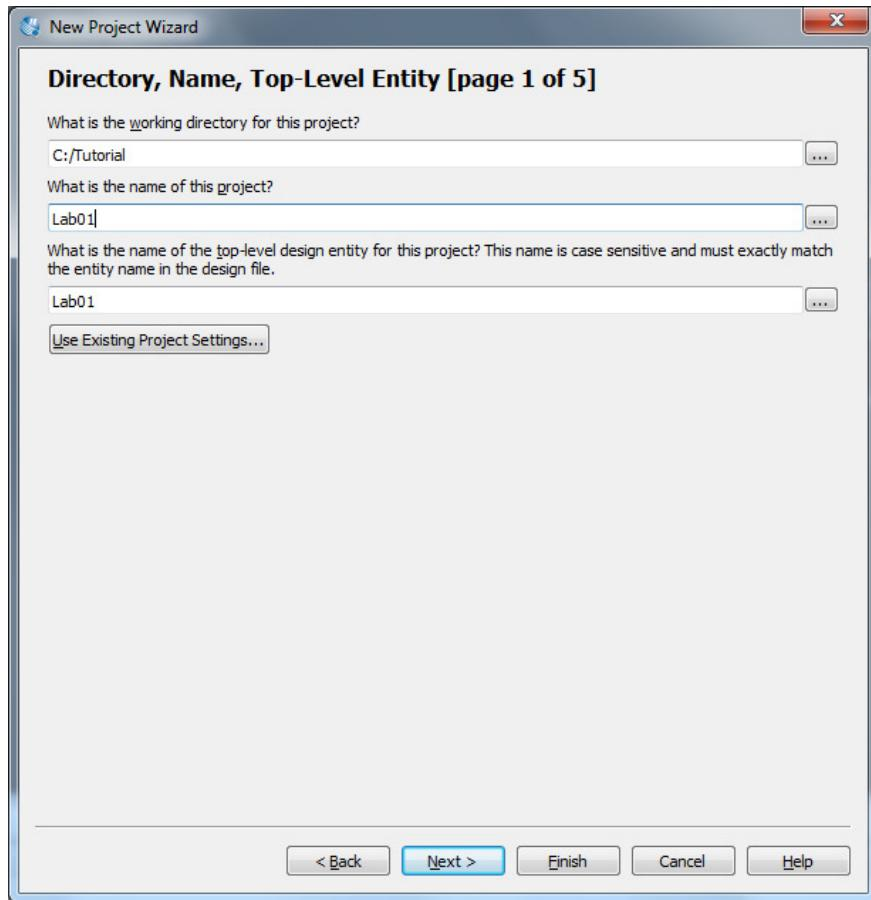

Fig. 3: ‘New Project Wizard’ window
1. Open the Quartus II Design software. Create a new project by choosing File > New Project Wizard and then click ‘Next’. Click on the Browse button to select the ‘working directory’. Create a new folder (preferably in C: or in C:/altera folder) and name it ‘Tuto’. Click ‘Select Folder’ and then select a name for your project (such as ‘Lab 01’ as shown in Fig. 3).